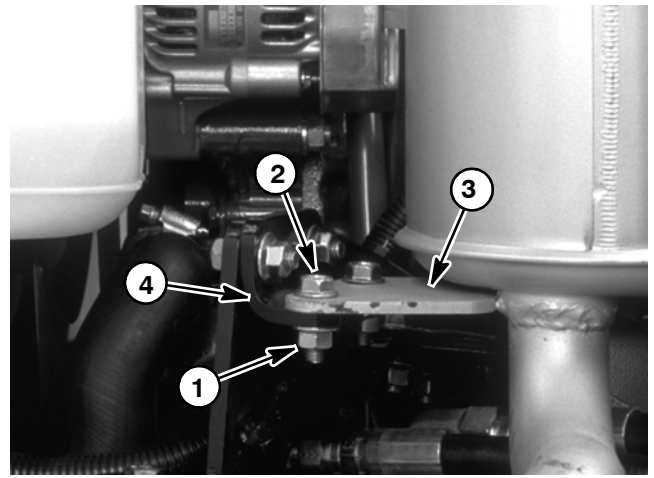

Figure 12
4. Remove both flange head nuts and screws securing the muffler plate to the muffler bracket (Fig. 12).
3. Position muffler plate to the muffler bracket with both flange head screws and nuts (Fig. 12).